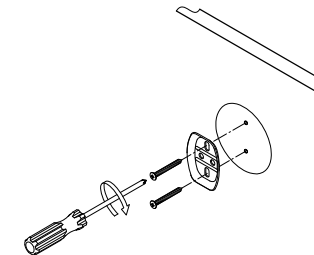

Fig. 5
- Step 4.** Screw the mounting plate (with the lips facing out) to the wall with the mounting screws (Fig 5).